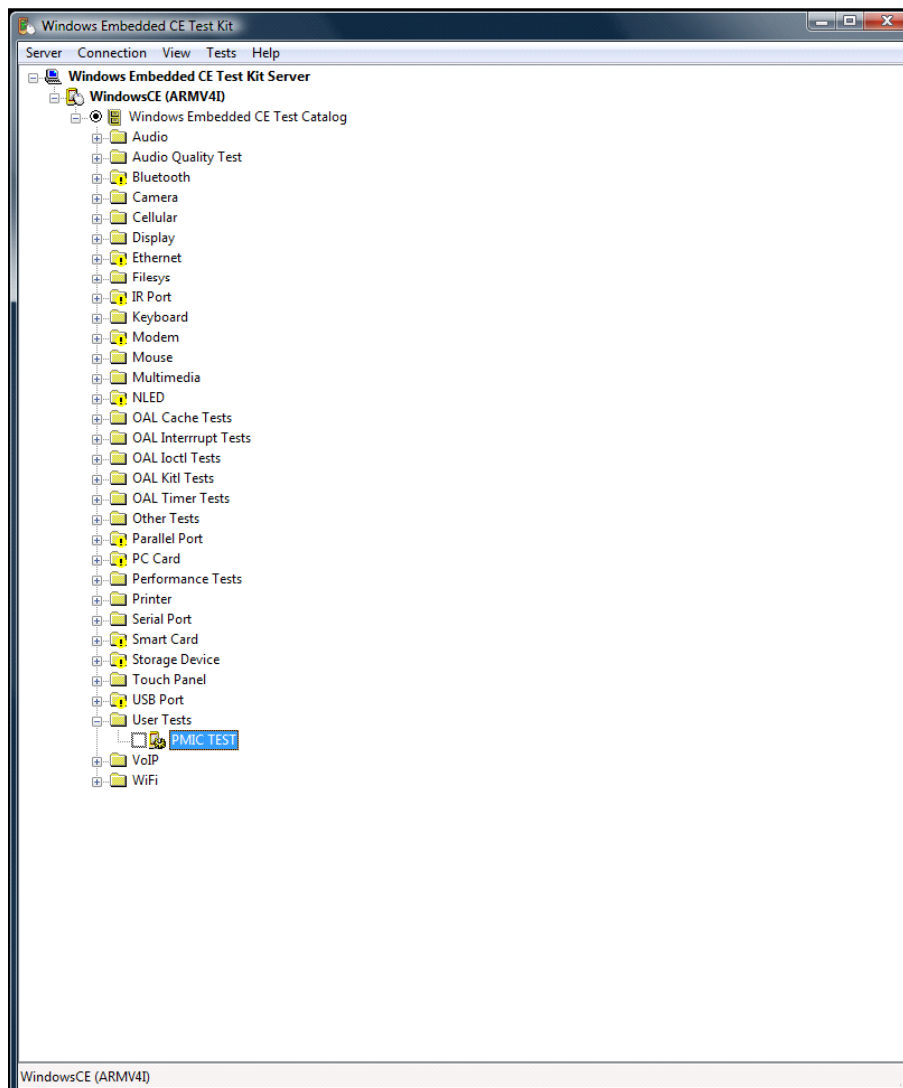

Figure 6. Windows Embedded CE Test Kit Window
9. Within the Windows CE Test tree, there is a User Test folder available and inside this is the new PMIC TEST, as shown in Figure 6.
Figure 6 shows the Windows Embedded CE Test Kit window.